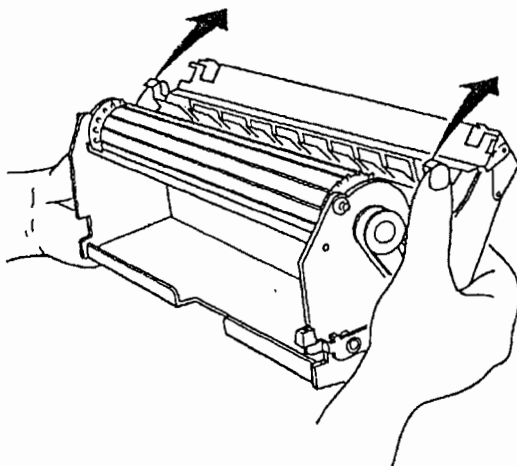

Figure 6.12
- (4) Lift up both knobs of the metal chart holder at the rear section of the chart tray in the direction of the arrows. (see Figure. 6.12)
- (8) Return both the right and left chart holders to their places on the housing holder. (See Figure. 6.12.)